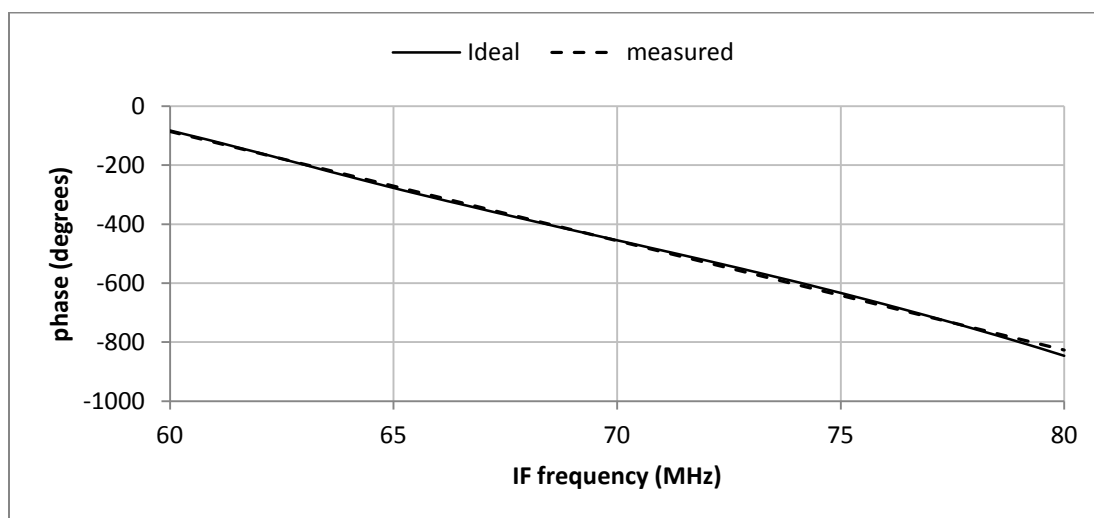

Figure 7. Phase deviation over 20 MHz.
- (3) To give users flexibility, the device has three resolution modes; two coarse modes and one fine modes. The coarse modes using fractional N PLL allow 1 MHz and 50 kHz steps while the fine modes using PLL and DDS provide less than 1 Hz resolution. See the appropriate sections of this manual for further information.
- (4) Locked and settled to < 1 ppm of final frequencies of > 500 MHz and step size of < 10 MHz. For final frequencies < 500 MHz the settle time applies to accuracy with 500 Hz of the final frequency for a 10 MHz step. See Figure 7 for examples of other tuning step settling times. When fast-tune mode is enabled the noise damping capacitor across the main YIG tuning coil is disengaged, resulting in an increase of the rate of current flow through the coil and settling to a steady state quicker. Lock time begins when the full tuning word command is received by the device.